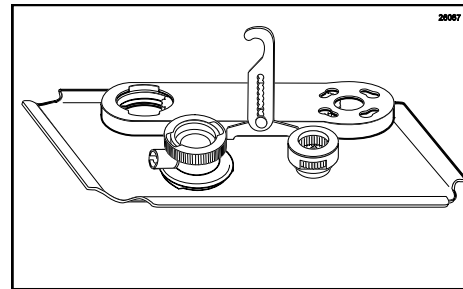

Figure 126
3. Remove each part from the sanitizer solution. Place the items on a sanitary tray to air dry. (See Figure 126.)